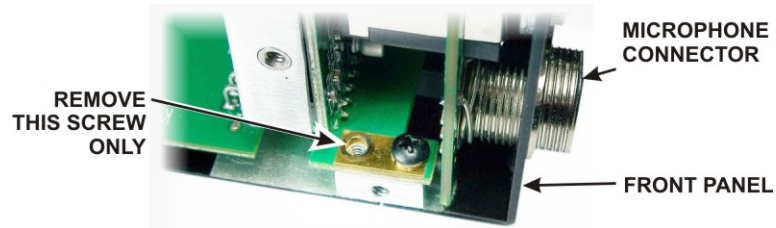

Figure 4. Removing the 2D Screw.
- Remove the screw shown in Figure 4. It is located directly behind the front panel microphone connector. There may be a lock washer under the screw. If so, save it with the screw. Removing the screw ensures the pc boards on the front panel assembly will have adequate clearance when the front panel assembly is removed in a later step. Remove only the screw shown. Leave the other screw in place as shown in the figure.
- Replace the 3/16" (4.8 mm) black pan head screw and, if used, lock washer in the 2D fastener (see Figure 4 on page 3).